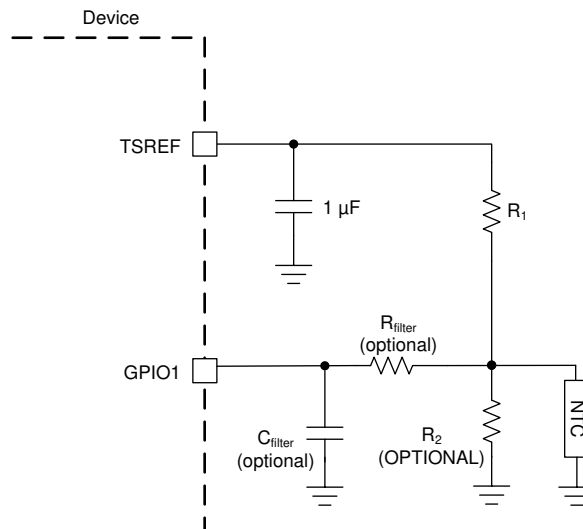

图 8-5. Thermistor Connection
图 8-5 shows the thermistor circuit when GPIO is enabled for thermistor measurements. MCU ensures TSREF is enabled by setting *CONTROL2[TSREF\_EN] = 1* and settled before taking the measurement value.
- $R1$  is the pull-up resistor as shown in 图 8-5 with the assumption the  $R2$  is not used